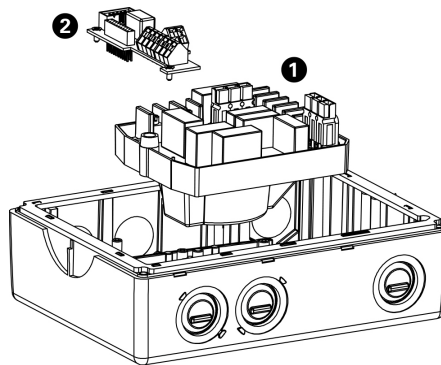

Figure 4-2 Removing the Filter and I/O Boards
3. Remove the I/O Board (2) (as shown in Figure 4-2).
4. Remove the Filter Board (1) (as shown in Figure 4-2).